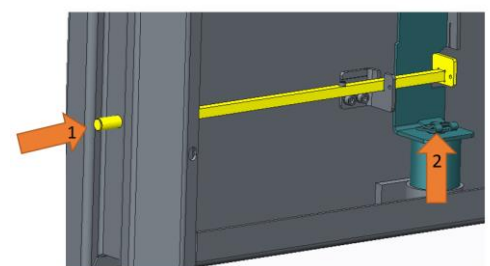

Figure 1
- If, for example changing the combination of the mechanical lock, locking mechanism must be closed (locking bolts extended), the blockade must be overridden by manually pressing the pin (1) on the door side wall (Figure 1) and then rotating the door handle in the contra clockwise direction. When rotating the handle clockwise the bolts will retract and the blockade will again lock the boltwork movement.